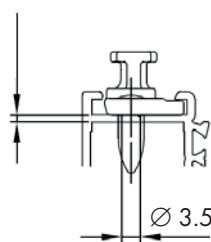

Fig. 4 (2.1)
Position jigs ALU-EB-E (see fig.3) and drill boreholes for strikers E (530) (see fig. 4) with Ø 3.5 or (see fig. 5) with Ø 4.2 (remove markings).
- E** Insert ESG LM M6 (620) into the milling groove provided (fig. 4).
- F** Mount ESG LM M6 (620) with coupling screws M6 (907) to the operating rods.